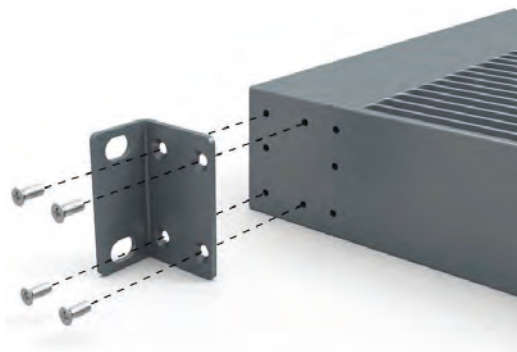

Fig. 8: Attaching a 19" mounting bracket
- ▶ Attach the 19" mounting brackets to the C-hub front, using 4 screws M3×16 per bracket and the Phillips screwdriver. Observe the orientation of the brackets shown in Fig. 8.